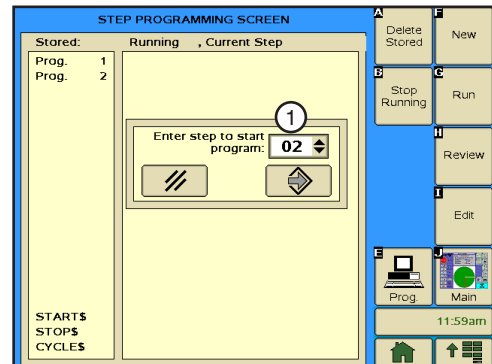

Figure 114-2 1. Step to Start Program
3. Choose the step number of the program where you want it to start. Refer to Figure 114-2.